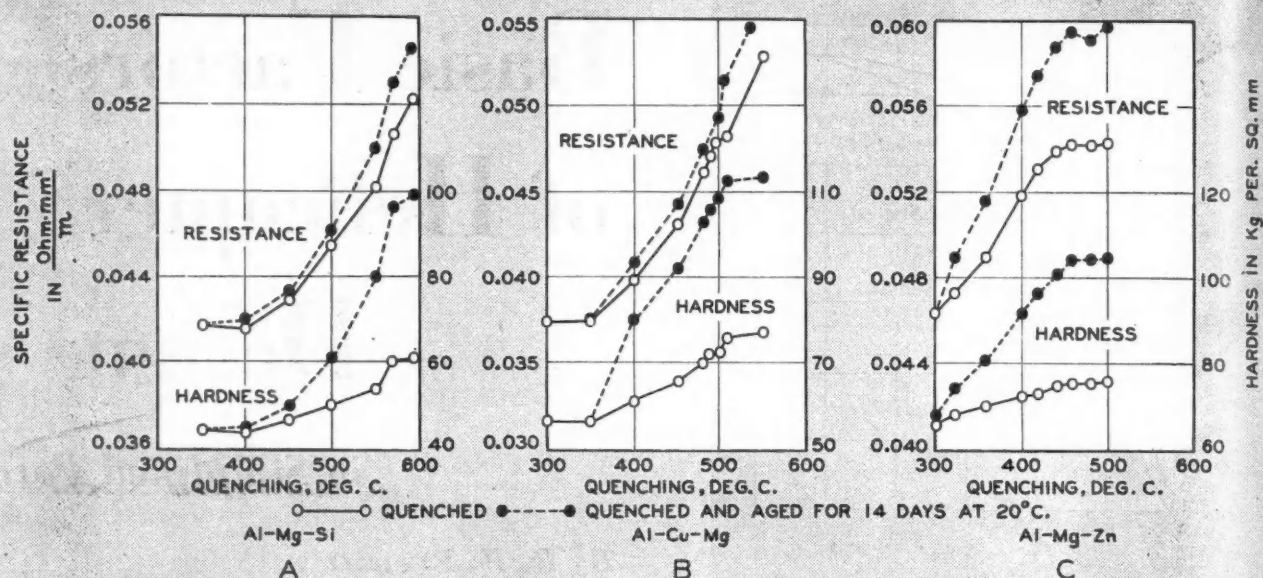

Fig. 1. Resistance and hardness of three aluminum alloys (after quenching and after aging) in dependence on the quenching temperature.
Fig. 1 shows a plot of the figure of merit (M) vs. coefficient of lift for two helicopter rotors in fixed sustentation. When sufficient data are available from model and full-scale flight tests, in the form shown on Fig. 1, the static lift of helicopters may be accurately determined. Likewise, the effects of blade twist, plan form, chordwise center of gravity and airfoil characteristics can be accurately compared provided tests are conducted at, or corrected to, the same Reynolds number.